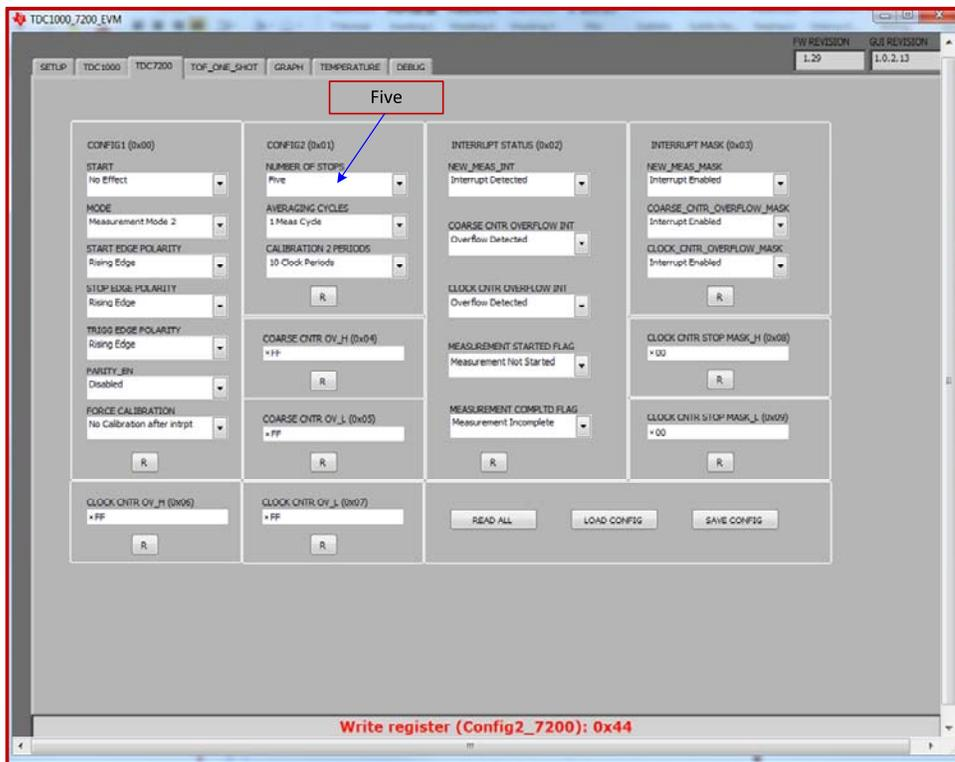

Figure 9. TDC7200 registers setup
9. Set the registers in the TDC1000 menu to the values shown in Figure 7, Figure 8, and Figure 9. Flip the "CONTINUOUS TRIGGER" switch to the top position (switch will turn to green from red indicating that the system is running).